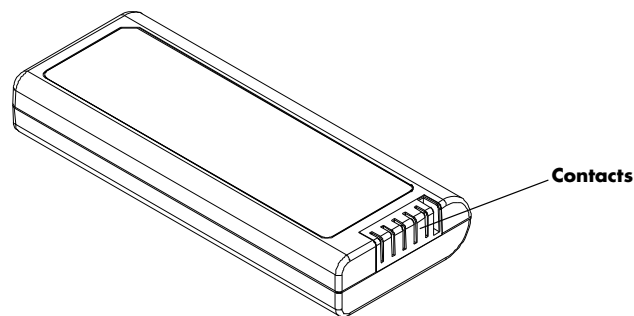

FIGURE 2-2 Lithium Ion Battery
- The battery compartment is shaped so that the battery can only be inserted in the proper orientation. Disengage the battery locking mechanism by moving its plastic tab away from the center of the compartment (see FIGURE 2-1). Insert the new Lithium Ion battery with its contacts (shown in FIGURE 2-2) facing the rear of the compartment.